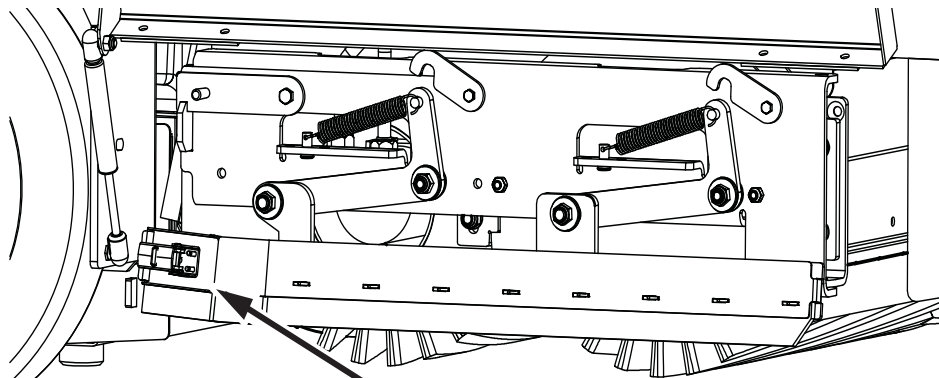

Fig. 1: Side Latch
4. Open the latch on the side squeegee retaining strap and remove the retaining strap. (See Fig. 1)